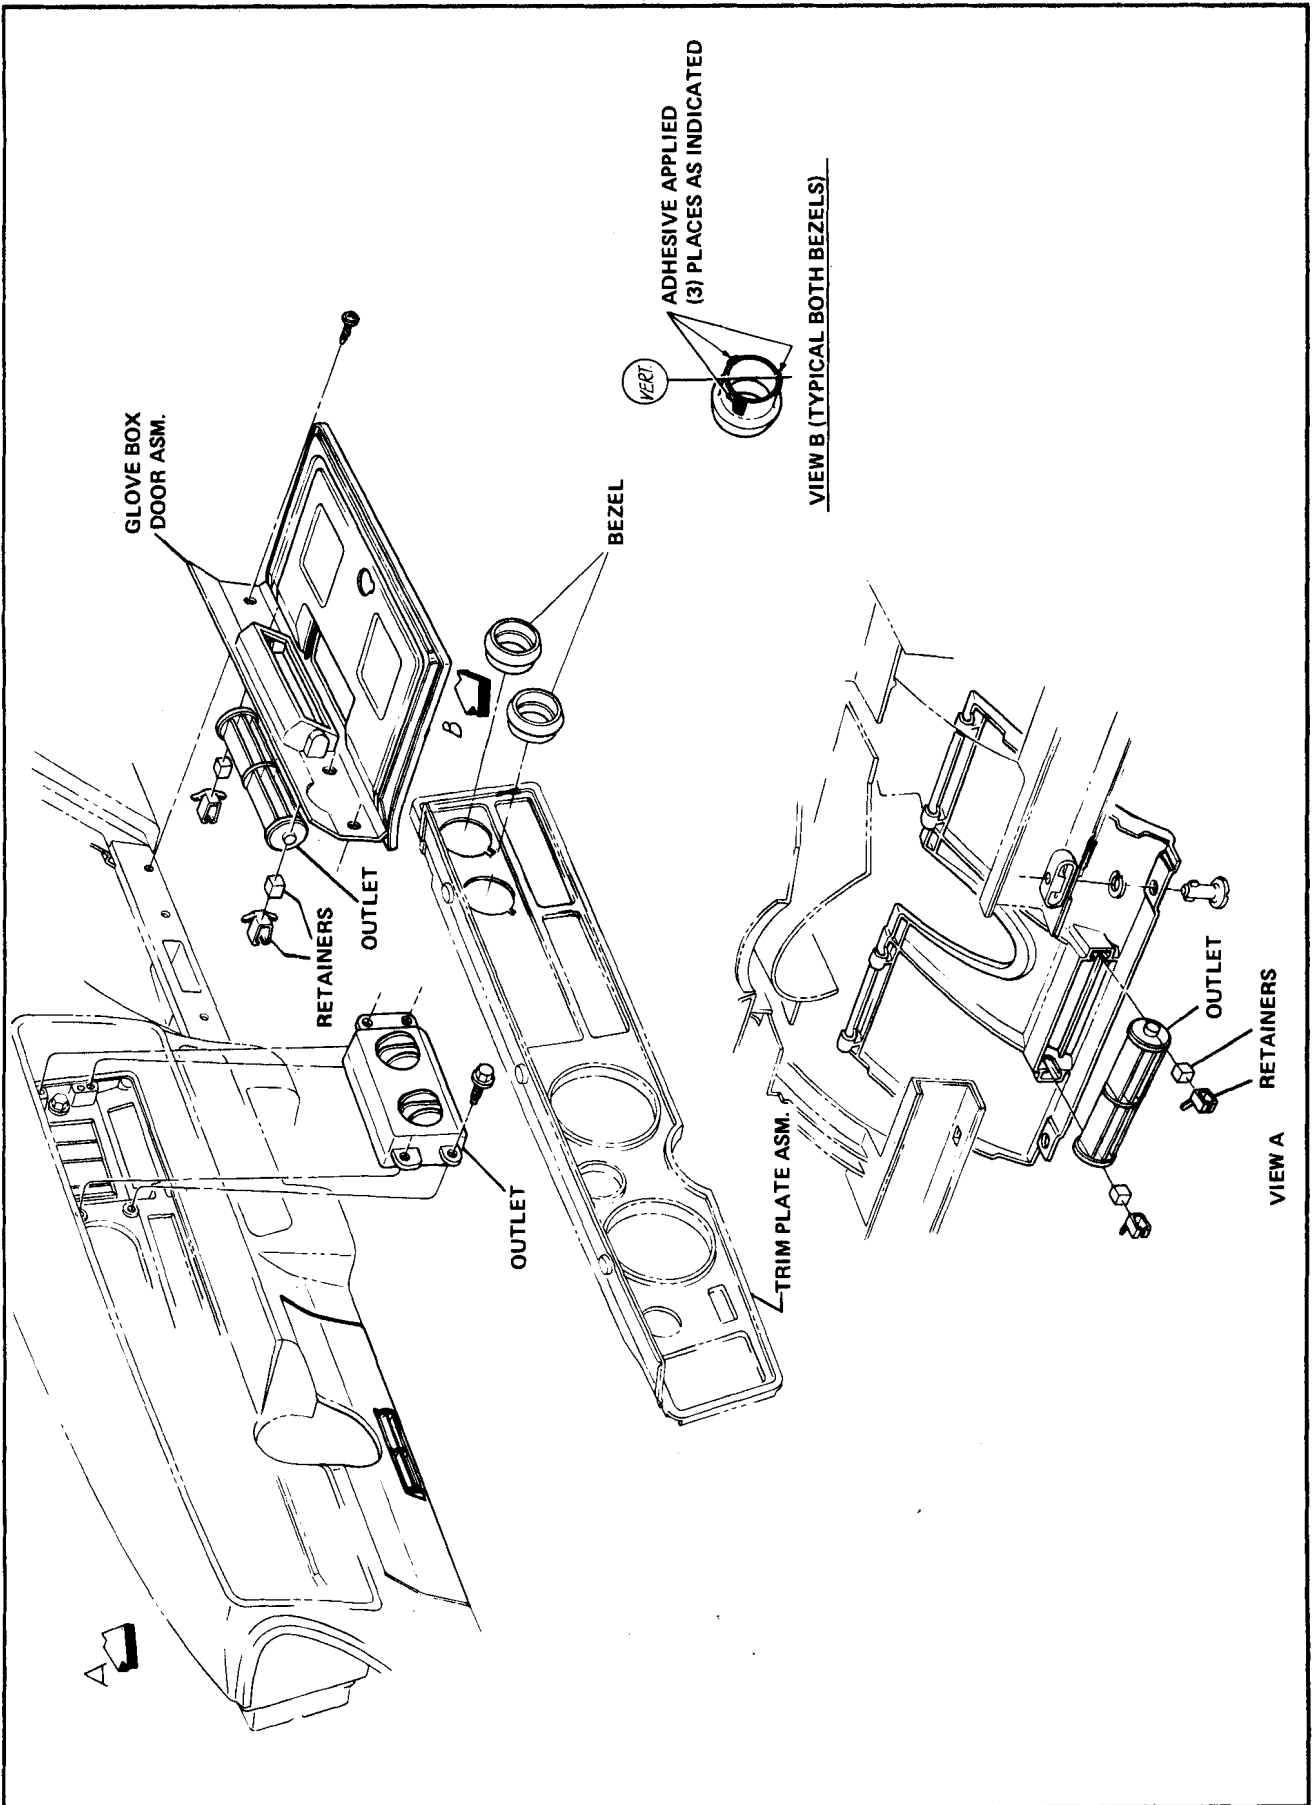

Fig. 1A-151 F Series Air Distribution Outlets
Removal and replacement of air distribution components on the X Series can be performed by referring to Fig. 1A-149 for duct and outlet installation.
For location of outlet nozzles on the B Series, refer to Fig. 1A-150.
The left and right A/C outlet nozzles (Fig. 1A-151) can be removed by inserting a thin blade screwdriver between instrument panel and top of outlet to release retaining (2) tabs. The outlets can then be removed and the nozzles released from slots in the outlets. The left hand outlet requires removal of the lower and upper instrument panel trim for removal of outlet.